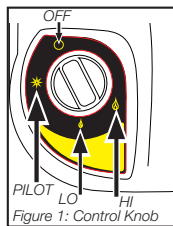
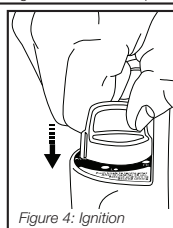

Figure 1: Control Knob
Figure 4: Ignition
- Make sure four position Control Knob is in "OFF" position : see Figure 1.
- Turn Control Knob counterclockwise to "PILOT" position  and depress to light; see Figure 1 and Figure 4.
Control Knob to desired position ("LO"  or "HI"  setting) Figure 1.